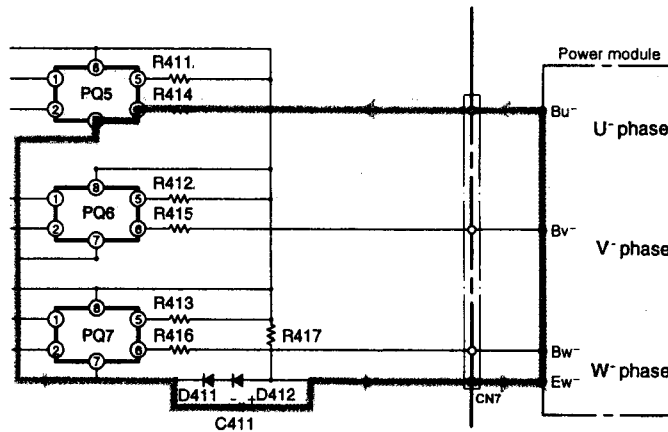

Fig. 7-5
- When pin ②⑥ of the micro computer goes "LO" → "HI", a photocoupler between PQ5 pins ① and ② turn off and reverse bias current flows to C411 → power module's Ew⁻ terminals → Bu⁻ terminals → R414 → PQ5 to cut off the lower arm transistors. (Fig. 7-5)
(2) Antriebsschaltkreis des unteren Arms